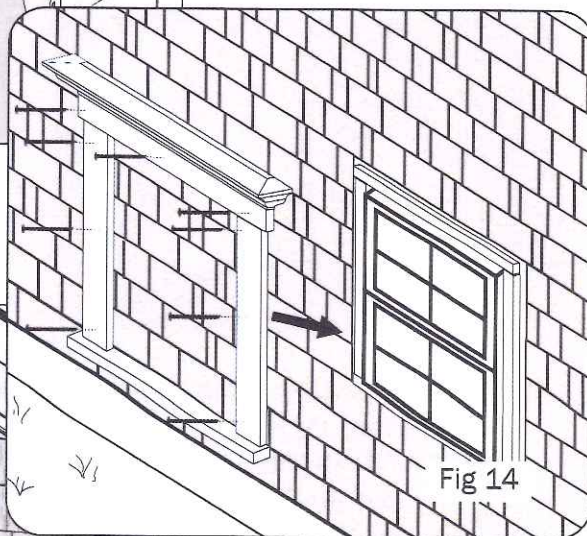

Fig 14
- Cortex® or Pro Plug® screws and matching plugs should be used when installing Celect trim. Space the fasteners no more than 16" apart and no closer than 2" from the end of the trim. Make sure not to fasten through the siding or into the expansion pocket (Fig 14).